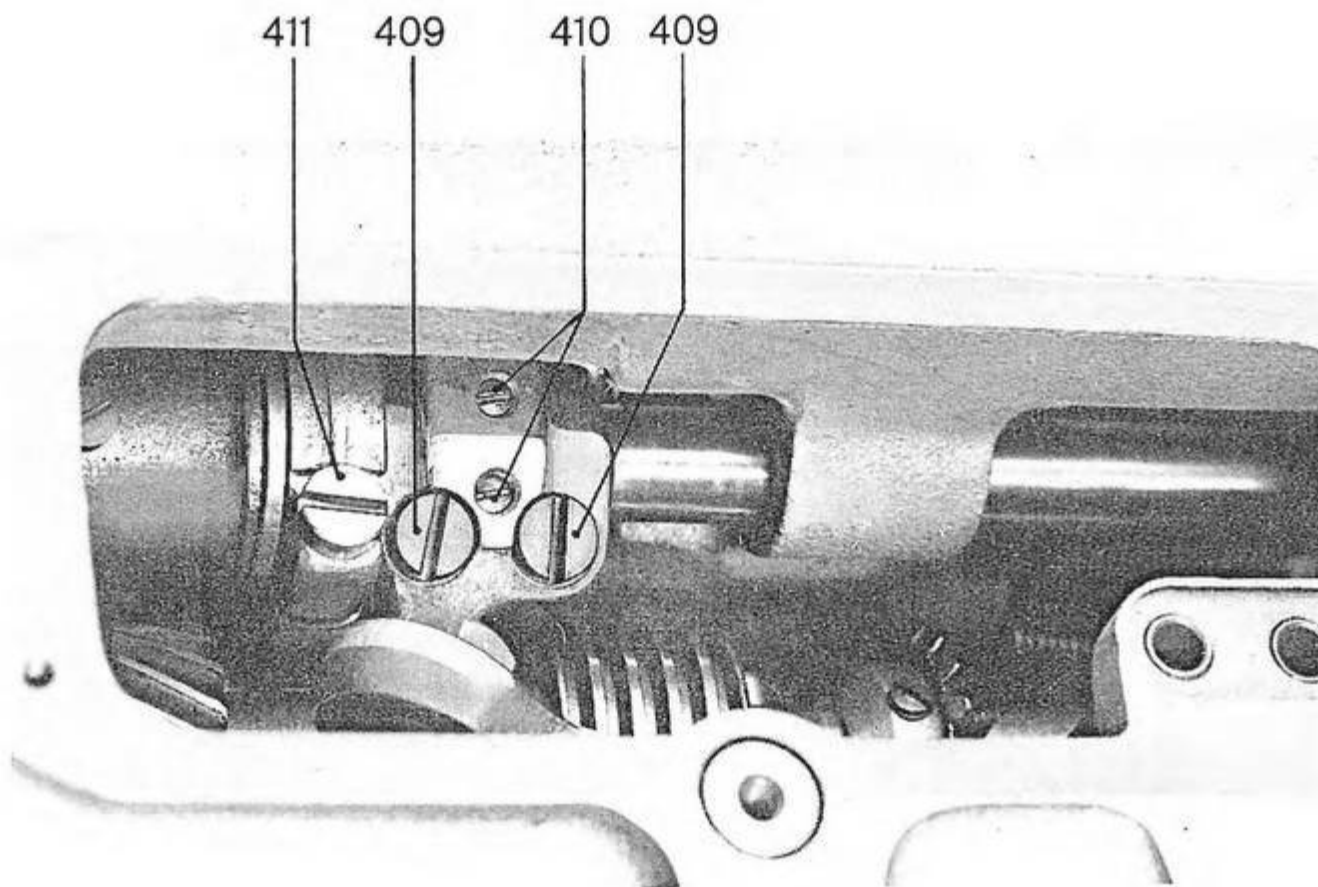

Fig. 94
Both screws 410 (fig. 94) press against the surfaces. If one screw has been reset, it is necessary to reset accordingly also the other screw.
Following the adjustment, retighten firmly the thumb screws 409 (fig. 94) and check the position of the safety lever 402) according to the preceding item 2.
The tappet 393 can be adjusted by turning the screws 412 (fig. 9) after having loosened the thumb screw 411 (fig. 94). Both screws press against the surfaces. If one screw has been reset, the other screw also must be reset accordingly.
Following the adjustment, retighten firmly the thumb screw 411 (fig. 94).